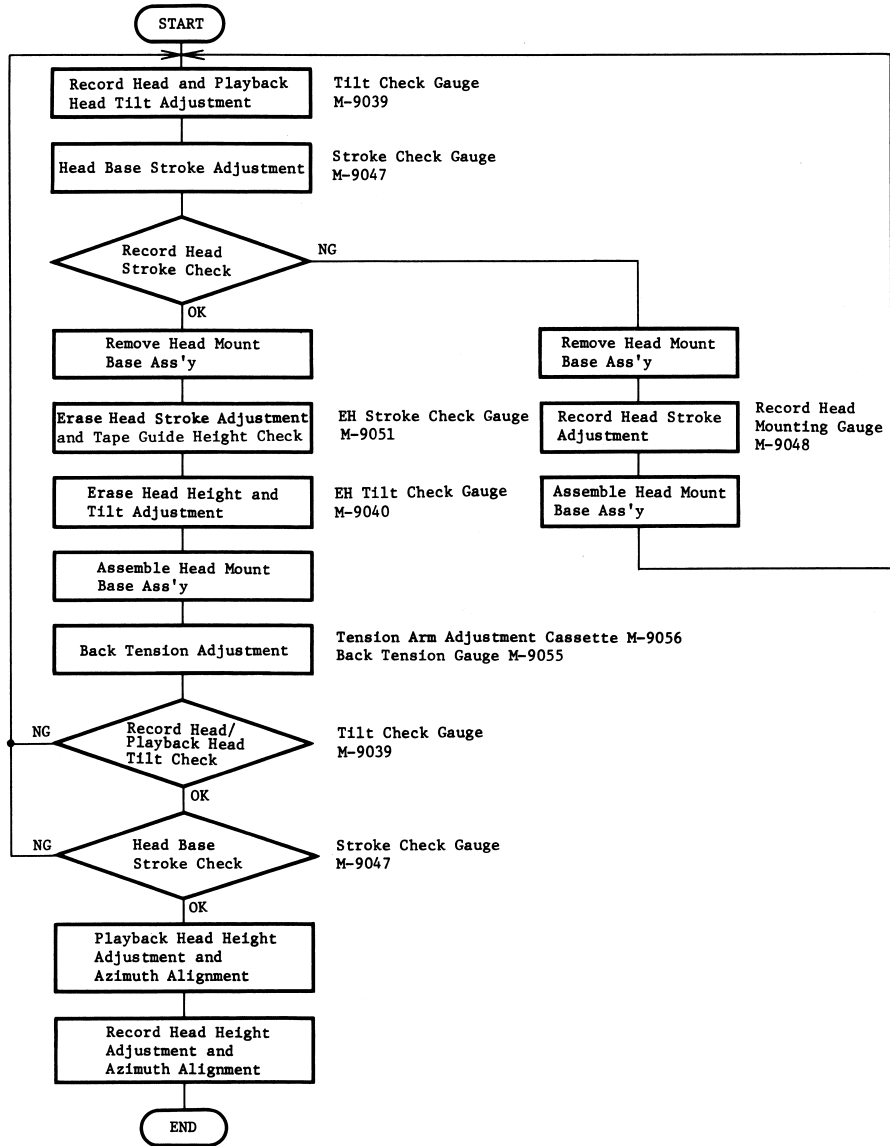
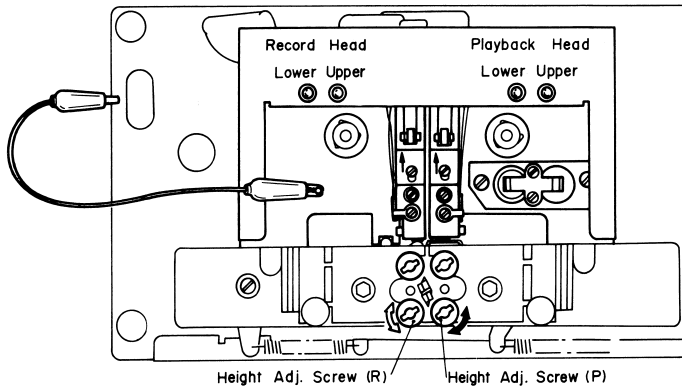

Fig. 4.4
Fig. 4.5
Note: On items 4.3 – 4.9, refer to Fig. 4.4 flow chart. Refer to Figs. 4.5 and 4.6.
- Beacon Playback Head "Lower" will light on when height adjustment screw (P) turned clockwise but Playback Head "Upper" when counterclockwise. Adjust so that both "Upper" and "Lower" will light on even when you move the slide knob to the direction of an arrow mark and then return them to the original place.
- Same procedures will apply to the Beacons Record Head "Upper" and "Lower", except for the height adjustment screw (R).
- Set the LX-5 in Stop mode and fit both of the serrated Height Gears. Then set the LX-5 again in Play mode and insure all of the 4 Beacons are illuminating. If not, (3) through (7) will have to be repeated till satisfactory results are obtained.